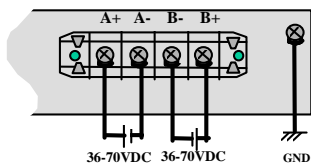

Figure C5.0: -48VDC Dual-Source, wiring connections to the External Terminal Block on a Magnum 48VDC with Dual-Source option
The -48VDC terminal block on the Magnum 6K16V Switch, as shown in Fig C5.0 is located on the right rear of the unit and is equipped with five (5) screw-down lead posts. If it is the reverse model it is located on the left rear. The primary terminals are identified as positive (A+), negative (A-), and the secondary power terminals as negative (B-), positive (B+).